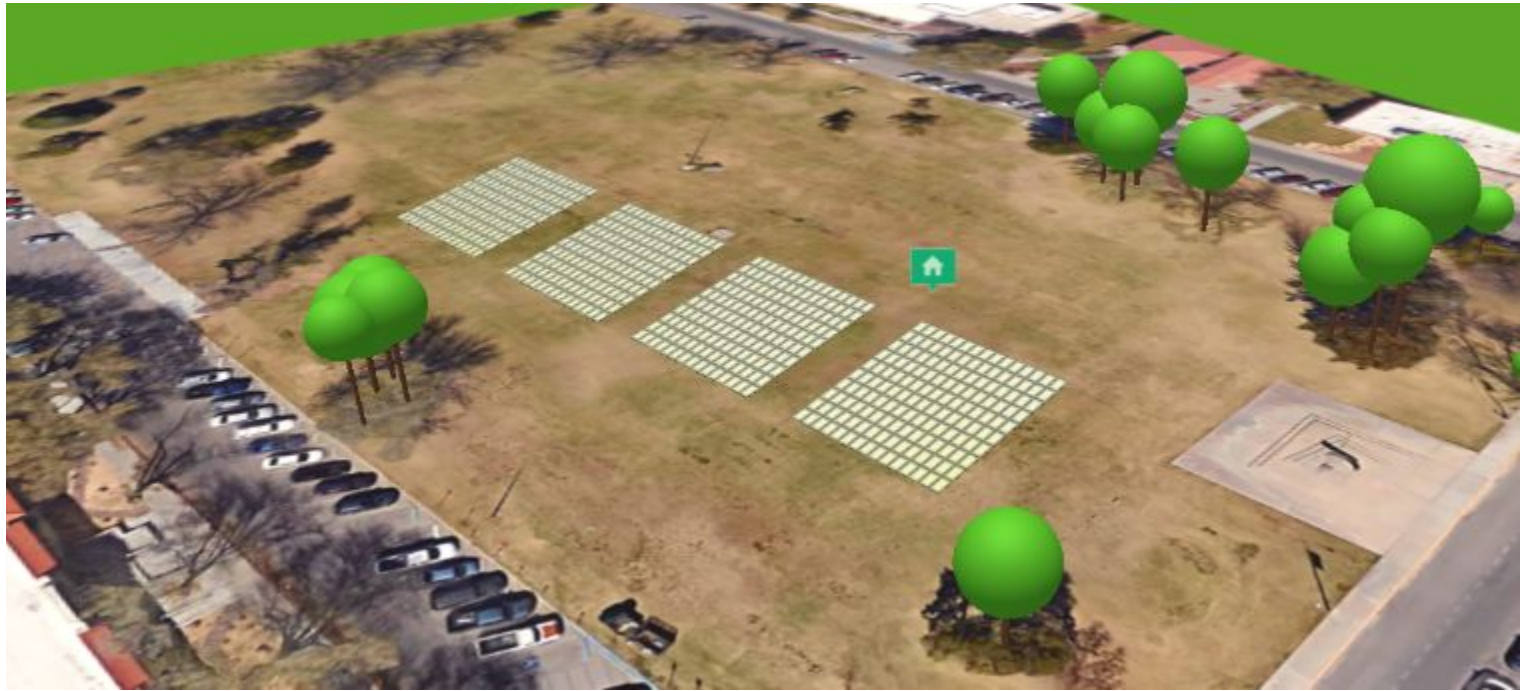

Figure 5: Solar Awning Design
- d. Solar awning in the Horseshoe Quad [Figure 5]